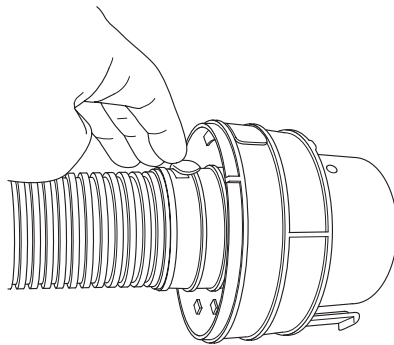

Fig. 19
5. Unfasten the clips on the boiler adaptor and insert the end of the flue duct with the seal into the 60mm socket. Ensure the seal is positioned past the clips, then engage the clips over the larger diameter 'rib' on the duct (Fig. 19).